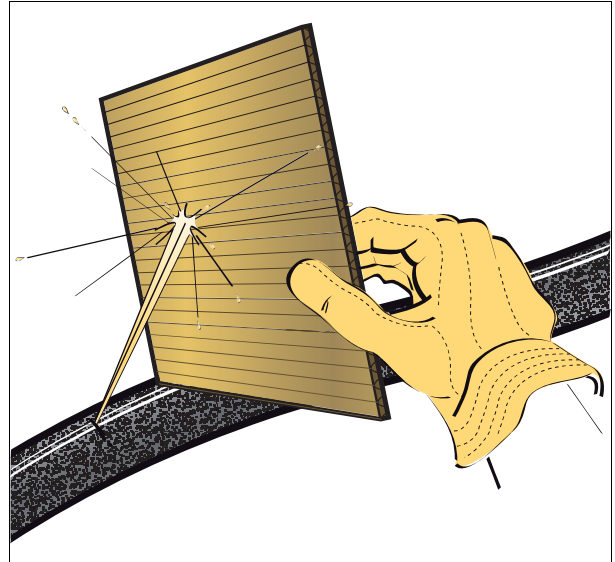

Fig. 3.
*Fuel or hydraulic fluid under pressure can penetrate the skin or eyes and cause serious physical injury, blindness or death. Leaks of pressurized fluid may not be visible. Use a piece of cardboard or wood to detect leaks. DO NOT USE YOUR BARE HANDS. Wear safety goggles for eye protection. If any fluid penetrates the skin, seek medical advice within a few hours from a doctor familiar with this type of injury fig. 3.*